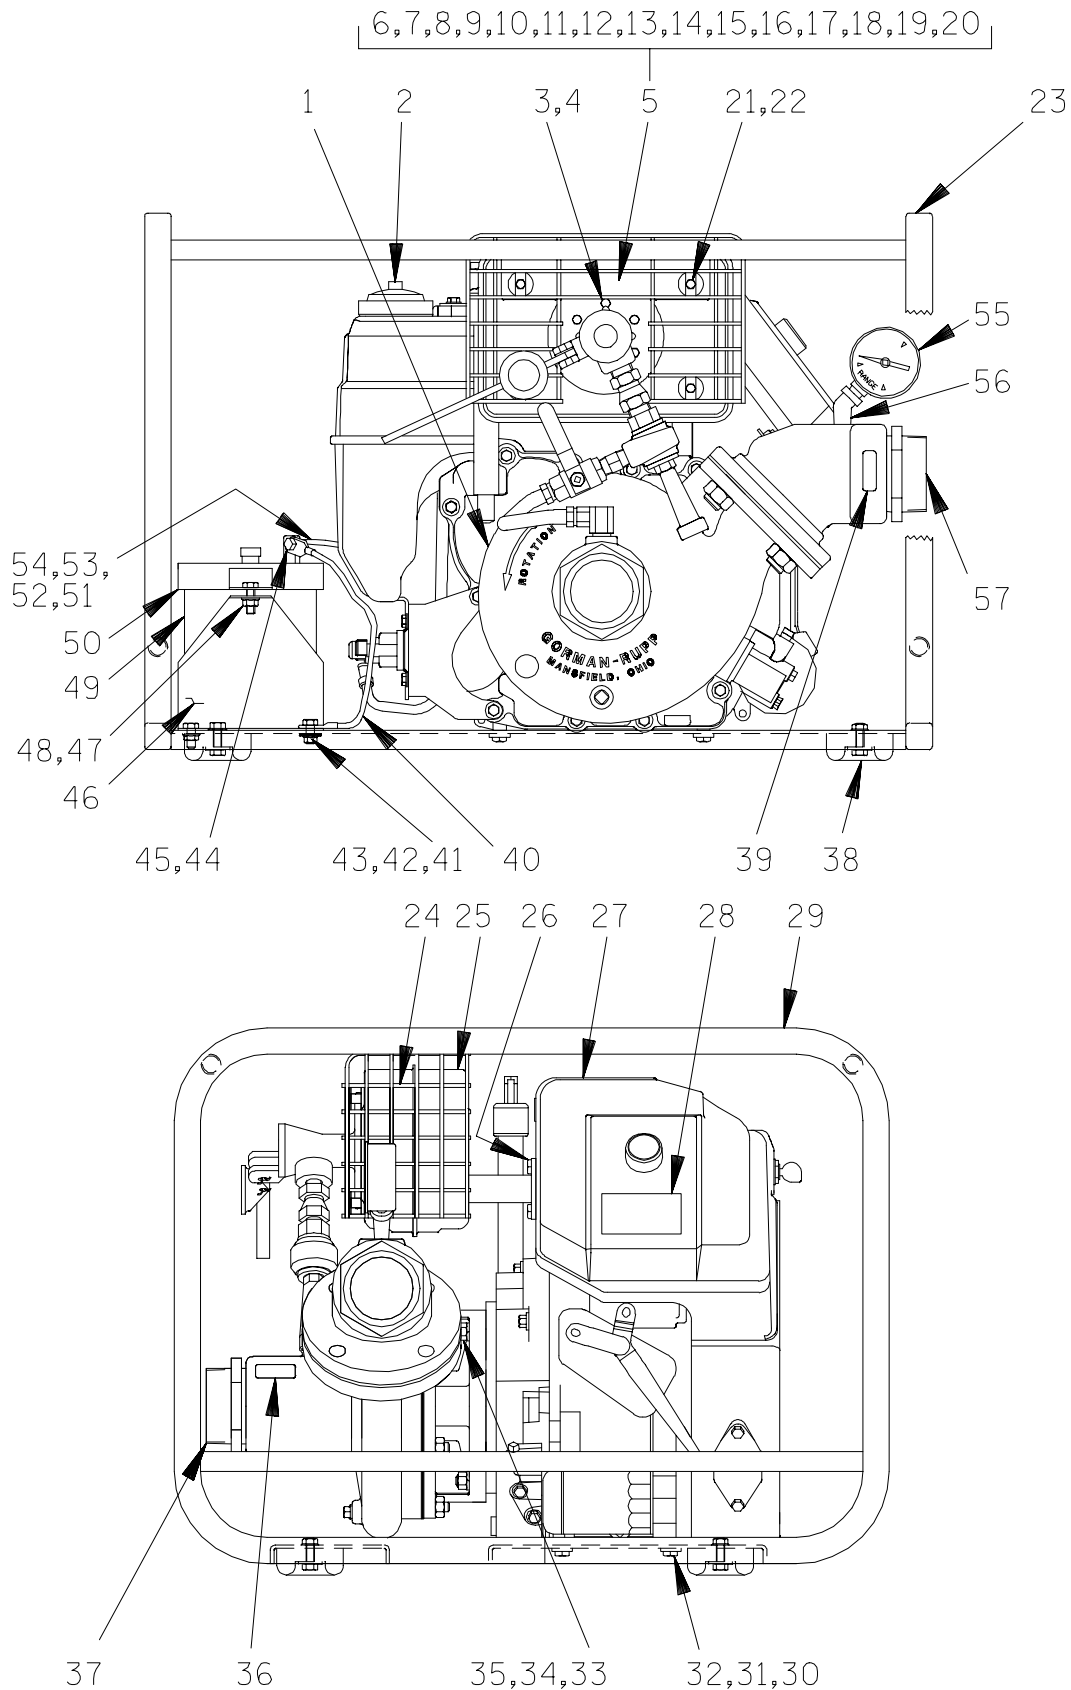

Figure 2. Pump Model 62 1/2A1-CH13 S/G
*An alternate method of removing the stationary seat is to remove the hardware (34 and 35, Figure 1 or Figure 2) and separate the intermediate (6) from the engine. Use a dowel to press the stationary seat and O-ring from the intermediate.*